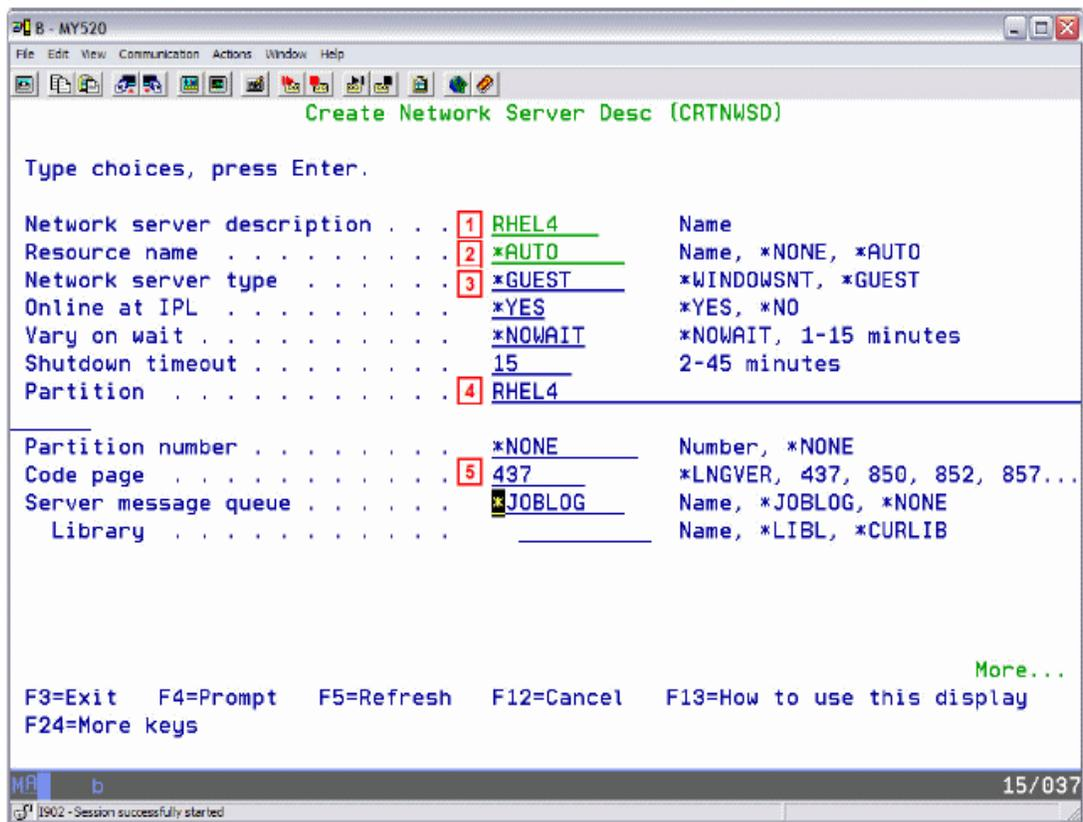

Figure 13-26 Create network server descriptor
1. Start the Create Network Server Descriptor using the **CRTNWS** command as seen in Figure 13-26.